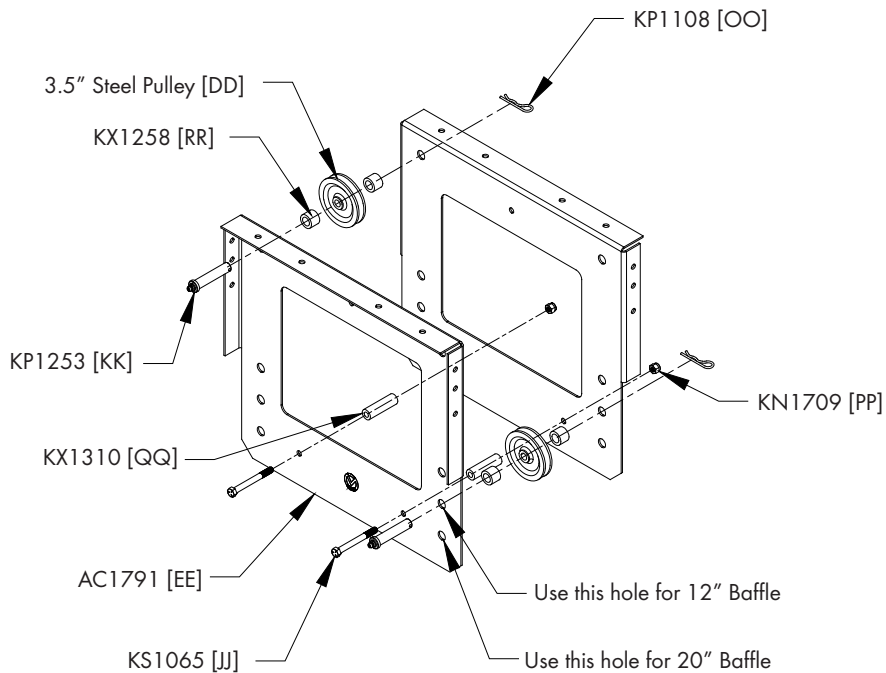

Figure 20
Locate (2) Cable Transitions Plates [EE] and fasten them together with (2) KS1065 Bolts [JJ], KX1310 Spacers [QQ] and KN1709 Nuts [PP]. Also Install (2) KP1253 Clevis Pins [KK], 3.5" D. Steel Pulleys [DD] and (4) KX1258 Plastic Spacers [RR] and (2) KP1108 Cotter Pins [OO]. See Figure 20.